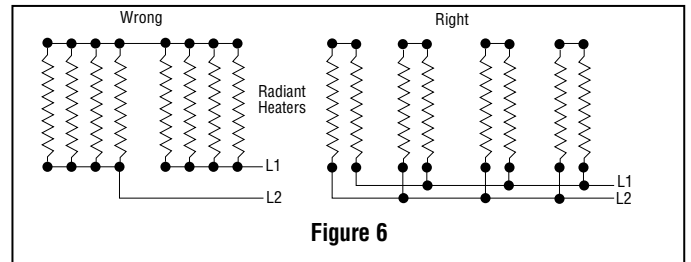

Figure 6
10. **SERIES CONNECTION** of Radiant Heaters of equal volt and watt rating is permitted in all line voltages up to 600 volts. In making such series connections it is necessary to observe the "right" (series-parallel) connection rather than the "wrong" (parallel-series) connection both shown in Figure 6. If heaters are connected according to the "wrong" illustration, failure of any one heater will cause progressive failure of other heaters still operating.